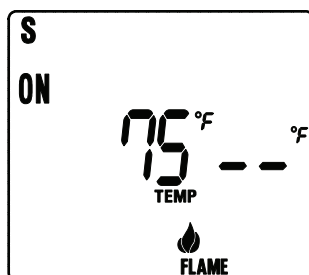

Fig. 9 Manual ON
Step 1: Press the MODE button one time to manually turn ON the appliance (Fig. 9).